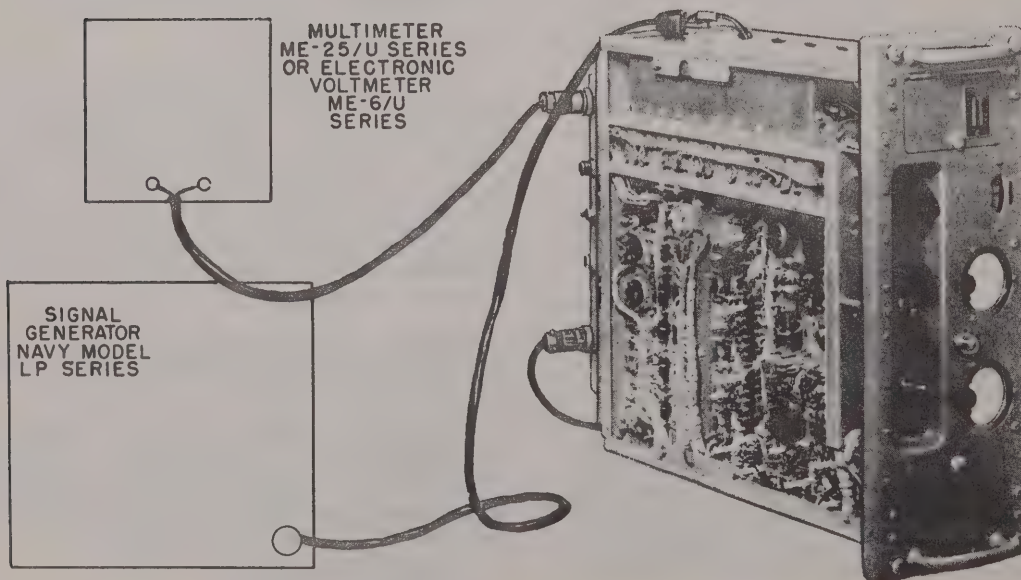

Figure 7-3. Bench Set-up for Alignment of I-f Section of Receiver
c. ALIGNMENT OF THE I-F SECTION OF THE RECEIVER (See figure 7-3).